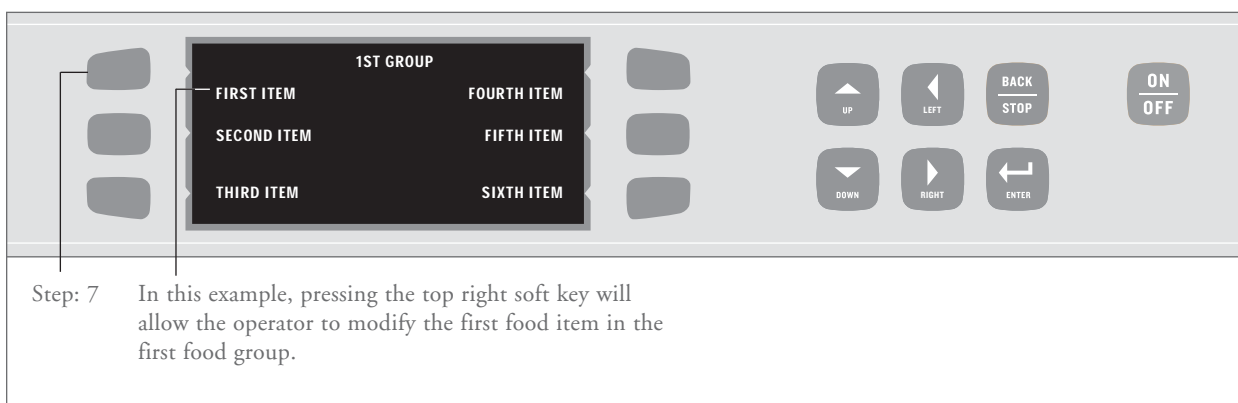

FIGURE 23: Modifying Recipes – Step 7
7. Select the food item to be modified (Figure 23).